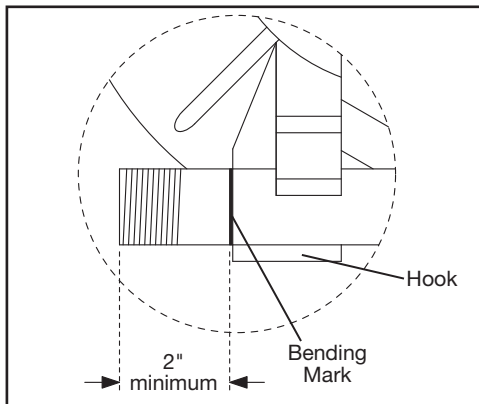

Figure 12
- Mark the conduit to the desired length. Note that a 2" minimum dimension is required to eliminate flattening the end of the conduit. See Figure 12.
- After marking the conduit, place it into the bender. The conduit should slide over the support rollers and through the shoe groove and into the hook. The bending mark should be at the front (OUTSIDE) edge of the hook. See Figure 12.